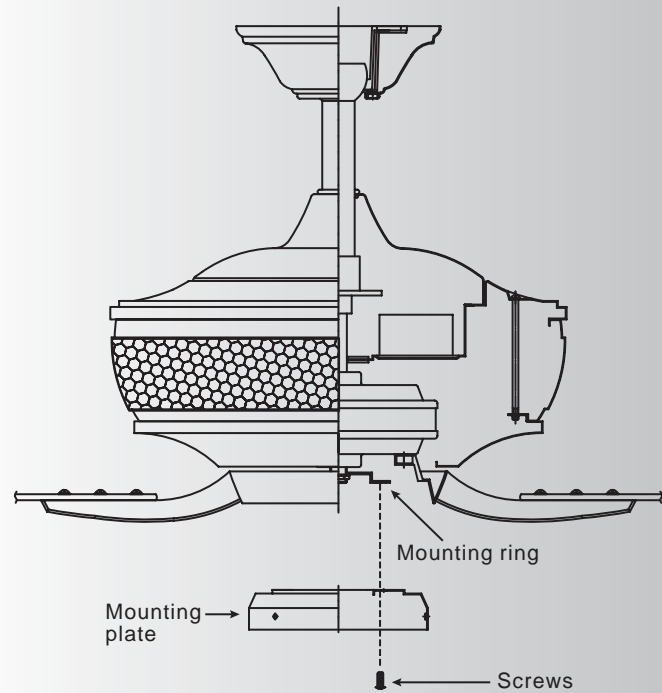

Fig. 16
2. Place the key holes on the mounting plate over the 2 screws previously loosened from the mounting ring, turn mounting plate until it locks in place at the narrow section of the key holes. Secure by tightening the 2 screws previously loosened and the one previously removed. (Fig. 16)
Install the switch housing onto the mounting plate with 3 screws provided. Be sure to tighten all screws. (Fig. 16)